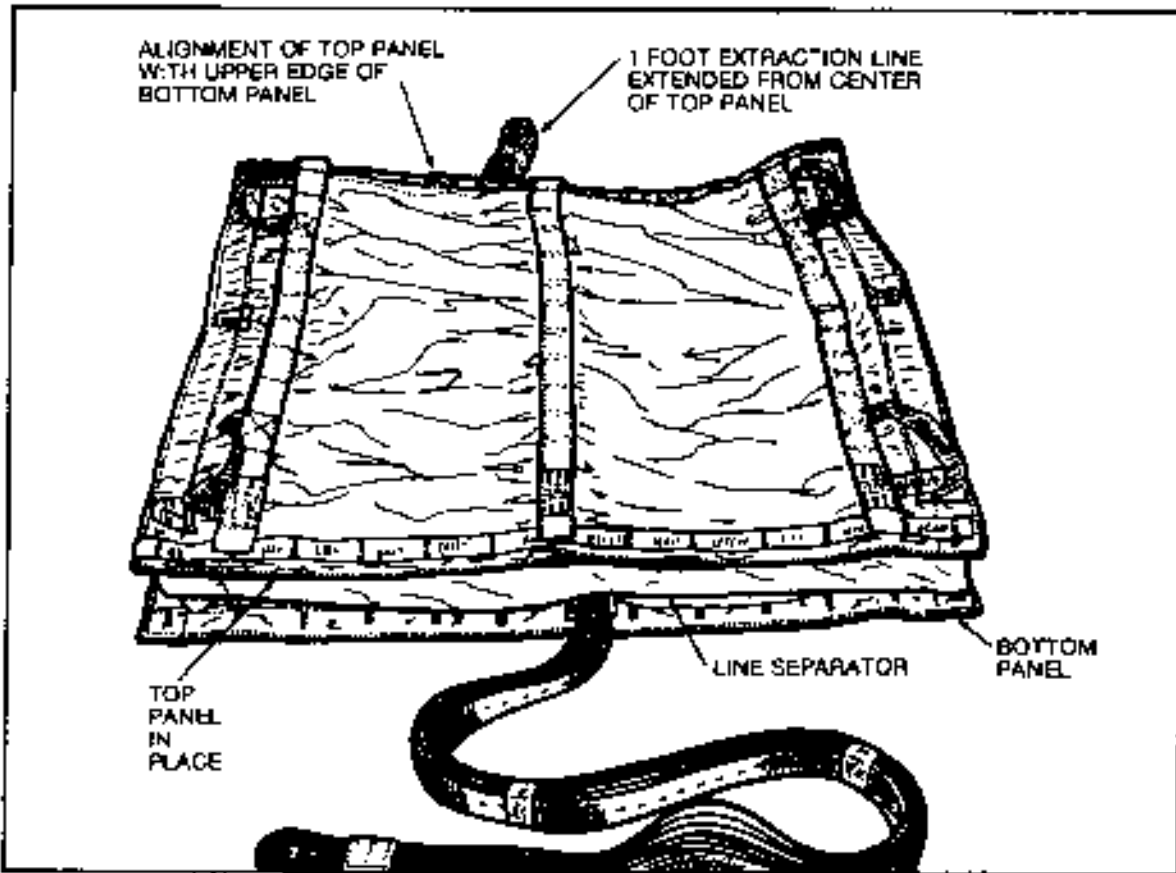

Figure 9. Top Panel in Place for Closing Extraction Line Bag.
- b. Fold top panel over and onto bottom panel and kraft paper (line separator). Align with upper edge of bottom panel. Insure that 1 foot running end (parachute attaching end) extends from upper center (figure 9).